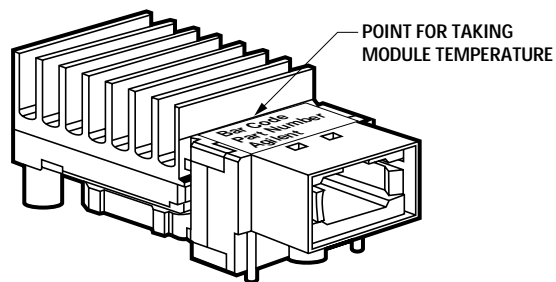

Figure 2 - Case temperature measurement
2. Case Temperature is measured as indicated in Figure 2.